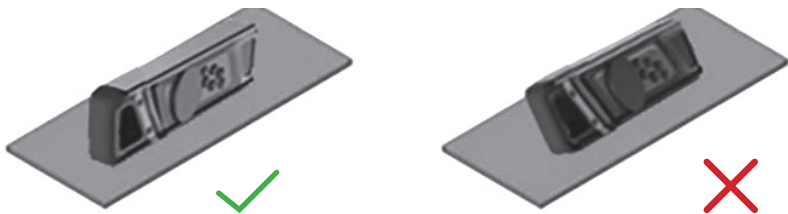

Figure 1
- Press (1) to turn the device on. Press and hold (1) for 2 seconds to turn the device off. The device will shut down in 10 minutes of no activity.
- To measure, place the device on a flat surface (Fig. 1).